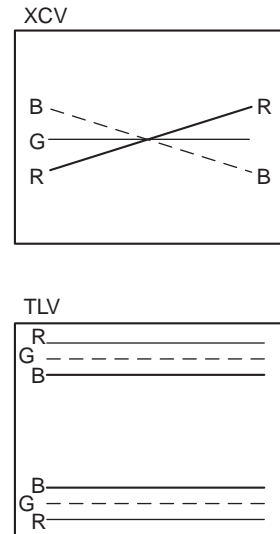

Fig. 1-14
1. Minimize the vertical misconvergence in the left-most end of the center of a screen and in the right-most end of the center of a screen by the DY correction reactor XCV as shown in Fig. 1-14.
2. Minimize the vertical misconvergence in the top of a screen and in the bottom of a screen by the DY correction reactor TLV as shown in Fig. 1-14.